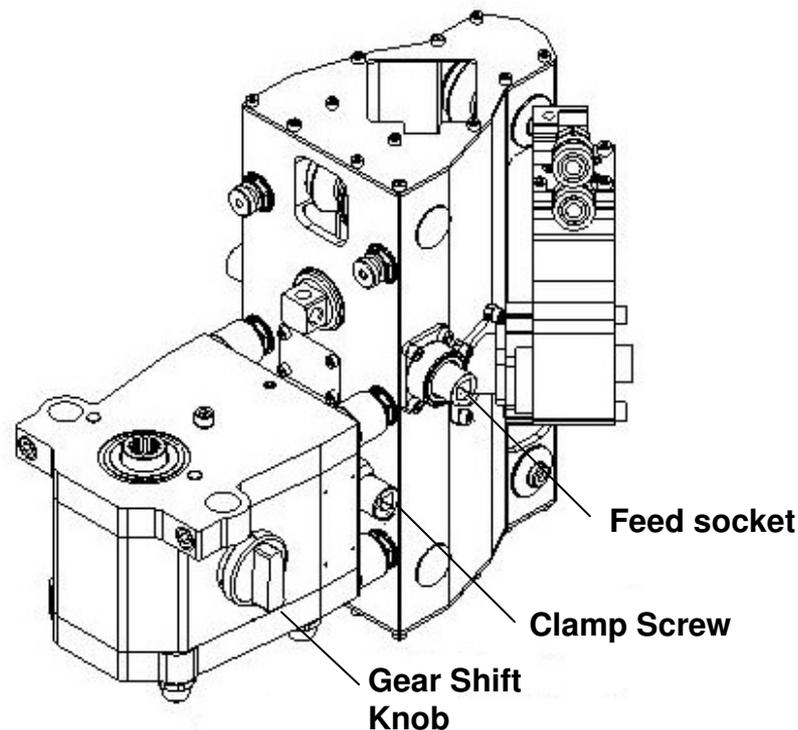

Fig. 8. Gearbox - MG41 mounted on the carriage - CE1.
1. Mount the gearbox on the quick release couplings on the carriage (see fig. 8) or the extension adapter. The quick release couplings make mounting and demounting easy and quick.
3. Screw the clamp screw into the nut on the carriage (see fig. 8). Do not overtighten the clamp bolt or the nut will be damaged.
4. Adjust the height of the carriage by turning the feed socket (see fig. 8) with a knuckle bar or with the hydraulic feed unit.
1. Turn the lever on the hydraulic motor to the OFF position (see fig. 8) to stop the drill unit. If the operator does not have supervision over the power pack, the power pack should be switched off and the two 5/8" hydraulic hoses disconnected from the hydraulic motor.
2. Push and turn the gearshift knob (see fig. 8) to desired gear position. To make the gear engagement dogs mesh, turn the drill bit at the same time as the index knob is turned.